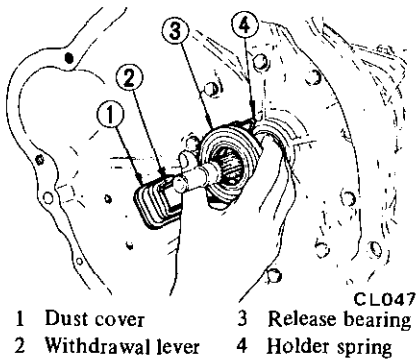

Fig. CL-8 Removing clutch release mechanism
3. Remove release bearing and sleeve as an assembly from mainshaft. See Figure CL-8.